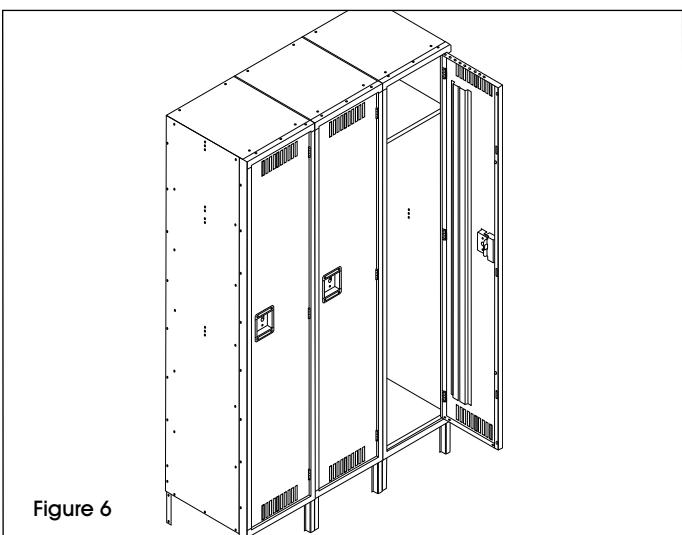

Figure 6
11. Stand unit upright, and place in desired location. If joining units together, remove temporary bolts in frames and bolt adjacent units together through frames. Check and tighten all permanent bolts. (See Figure 6)
12. For H-1227 and H-5529: Place non-slotted end of coat rod (10) over projecting tab of top left coat hook. Slide the slotted end of the coat rod over the projecting tab in the right coat hook and turn 90° to secure it.
1. If joining a 3-wide unit beside another unit, temporarily install a bolt and nut into the third and sixth holes down from the top of the outer frame(s) that will be joined to the adjacent locker frame(s). (See Figure 6) The center locker frame can be bolted complete.